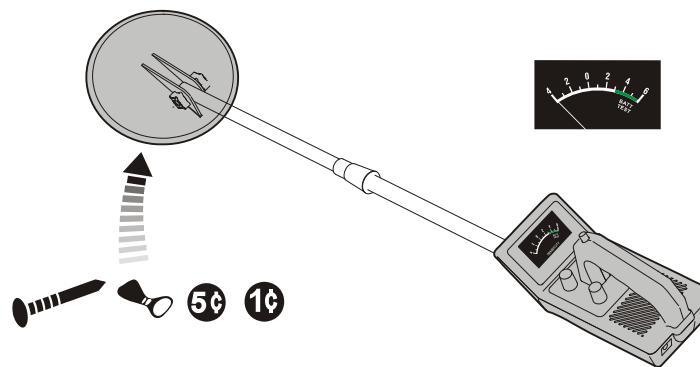

Figure.12
- Let other metal samples approach the search coil slowly, the meter pointer will deflect to the left, and the sound will turn light. (Figure.12)